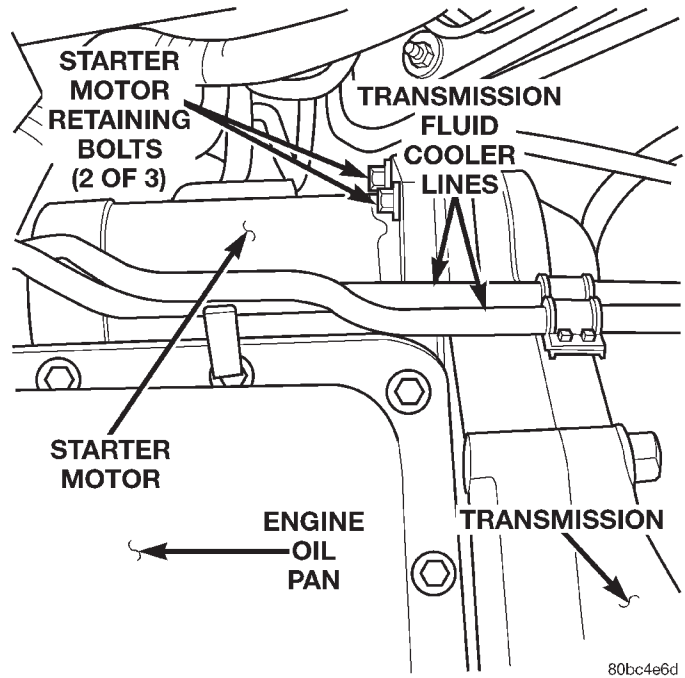

Fig. 2 Starter Motor Position & Orientation
- (1) Position the starter motor on the engine and install the (3) starter motor retaining bolts. Torque the bolts to 27 N·m (20 ft. lbs.) (Fig. 2).